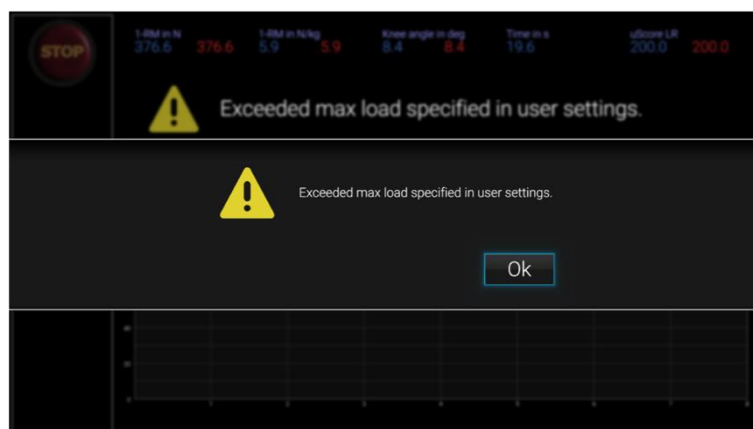

**Figure 46:** Pop-up message indicating that max. flexion angle was exceeded.
3. If the load exceeds the maximum load specified in the user settings page, the DD System ELITE interrupts the current training session, and a warning pop-up message appears (Fig. 46).